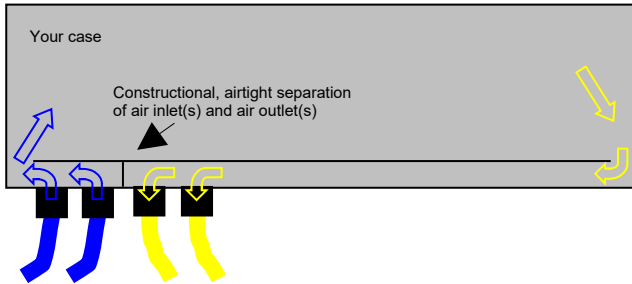

Fig. 5 - The shown positions of the hose fittings do not represent a general solution or recommendation.
NOTE: The positions shown in Fig. 5 do not represent a general solution or recommendation.
- 3) In- and outlets (even those of different EBCs) must not be located directly next to each other on the case wall (you may position inlets next to inlets and outlets next to outlets). If they need to be positioned close to each other, anyway, the inner construction of the case should be realised along the ideas presented in Fig. 5.
- 4) The constructions on the inside of the case should be realised in a way that enables the air to stream over the whole volume of the case. Should i.e. some air in- and outlets be located behind the same partition wall or divider, the inlets need to be sealed off from the outlets even if much space is left between those in- and outlets - see Fig. 5.